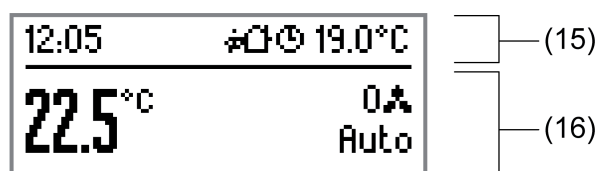

Figure 54: Example of a basic display with two display areas
The device's graphics display has 103 x 40 pixels and is equipped with switchable LED backlighting. The display is subdivided into various display areas, depending on the configuration in the ETS, the operating state and the specific device functions that are activated. A general distinction can be made between 1-area and 2-area display. With two display areas (Figure 54), the upper area of the normal display (15), also called the status line, shows symbols that indicate various operating modes of the room temperature controller or the controller extension. Moreover it is optionally possible to display in the status line the time (left justified) and additional temperature values of the controller extension (right-justified).